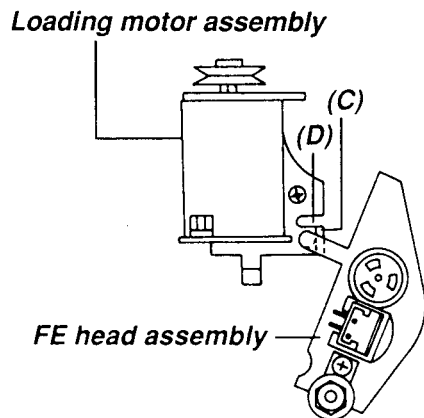

Fig. 4-4-2
- Confirm that inlet lever is in the position which is shown in Fig. 4-4-2.